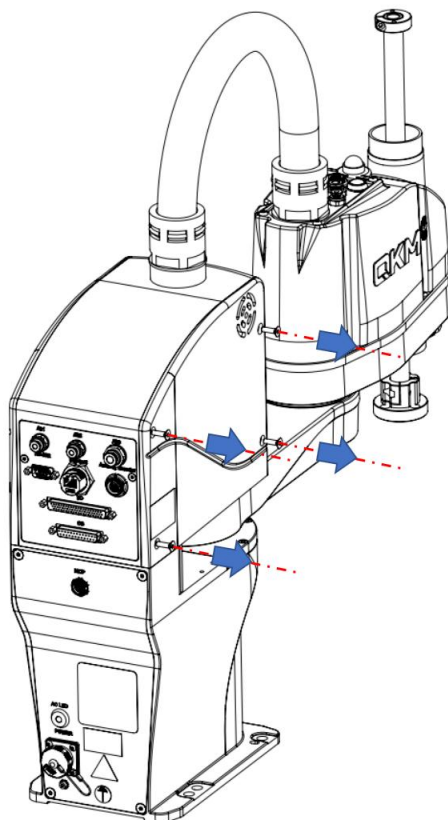

Figure 4-6 Removal of upper control cabinet side door panel
**Step 1** Use 3 mm Allen wrench to remove the screws from the side door panel of the upper control cabinet of the robot, as shown in Figure 4-6.